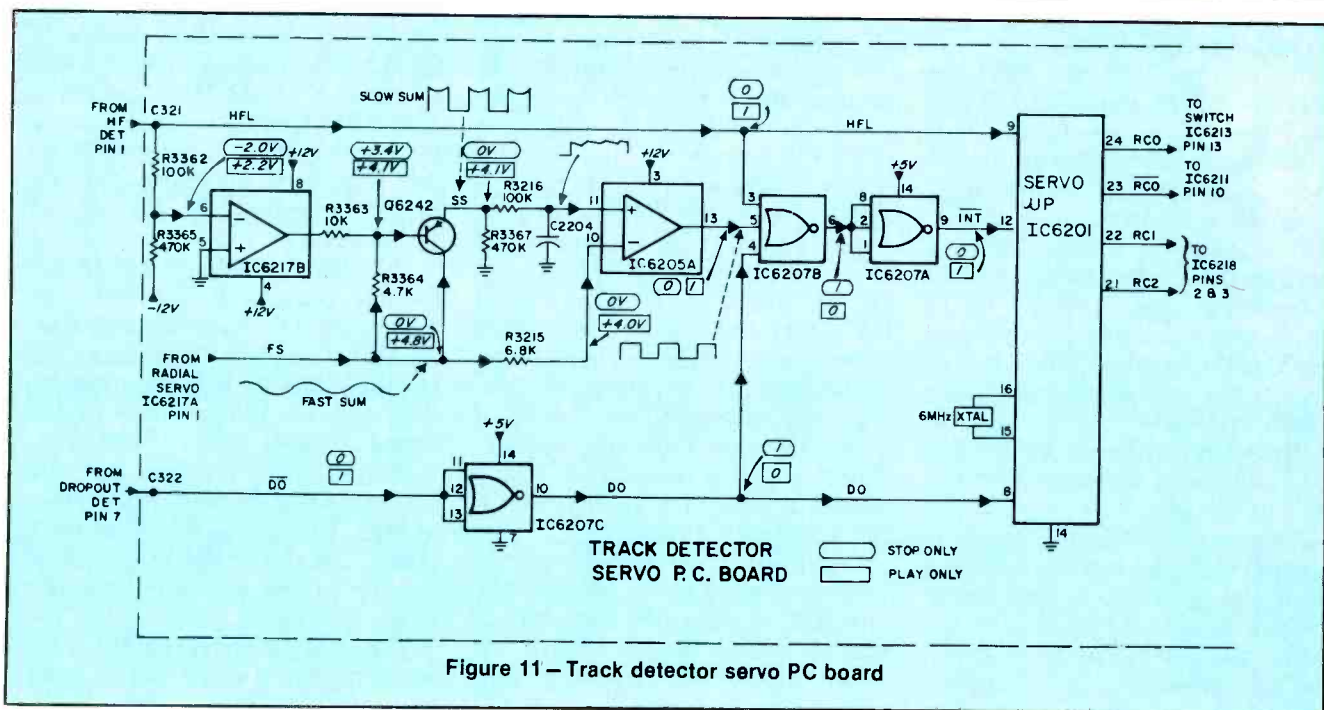

Figure 11 – Track detector servo PC board
The drop-out and high frequency level is applied to connectors 321 and 322 of the track detector on the servo PC board, Figure 11. When the radial tracking arm moves quickly across the disc, the radial error (RE) which controls the arm, must be switched *off* by the servo microprocessor. Control of the radial servo system is obtained by using the DO and HFL signals in conjunction with the fast sum (FS) signal from the radial servo system.